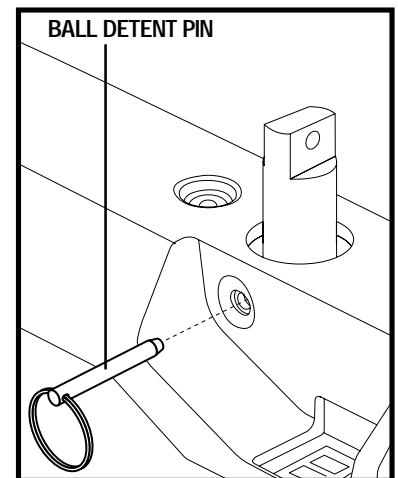

Figure 21. Seat Tower
7. Remove the ball detent pin from each seat tower as shown in figure 21.